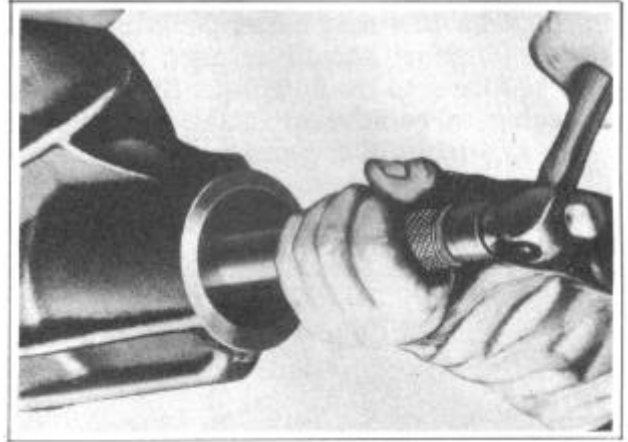

FIGURE 45
18. Remove drive pinion rear bearing cup from housing, using Remover J-2644 and handle J-872-5, Figure 45. Carefully remove shim pack from behind bearing cup. Measure and record thickness and tie shims together for reinstallation.